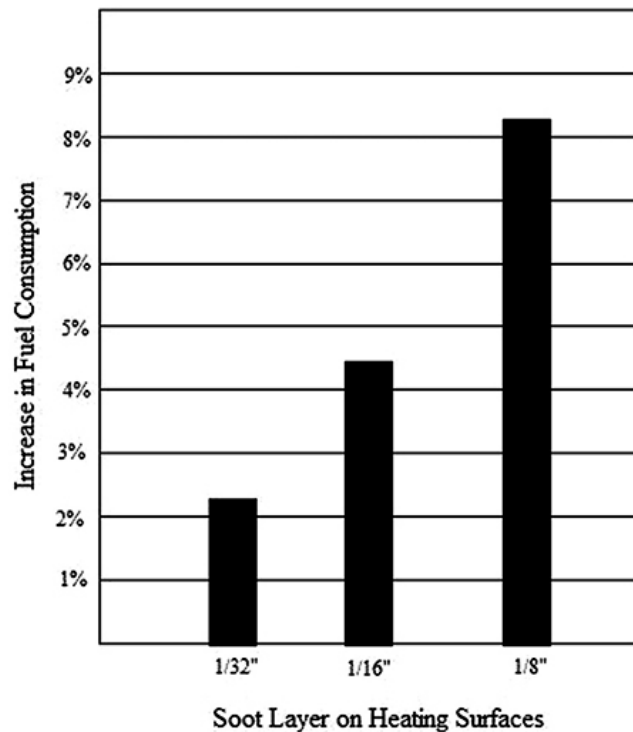

Figure 2-4. Effect of soot on fuel consumption.
8.2 percent (fig. 2-4). Notice that the difference from the second column to the third column is only 1/16 of an inch. Now, take the difference of the two values: 8.2 percent minus 4.4 percent = 3.8 percent. In this case, 1/16 of an inch of soot increases fuel consumption 3.8 percent, which is not efficient at all. Add the excessive maintenance and service costs caused by smoking combustion and the inferior burner performance it is easy to understand that clean combustion is a matter of substantial importance to Air Force installations.